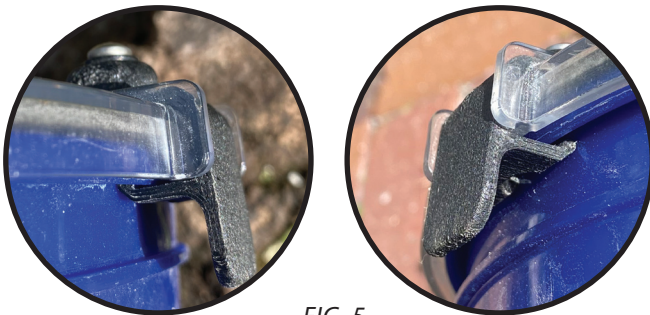

FIG. 5
- a. Lift up on both the latches simultaneously and push the Low-Pro firmly down onto the bucket so that the gasket is compressed. Then push the latches inward and ensure that they are closed under the lip of the bucket [FIG. 5]. The latch screw can be adjusted to better tighten the latches to the lip of the bucket.